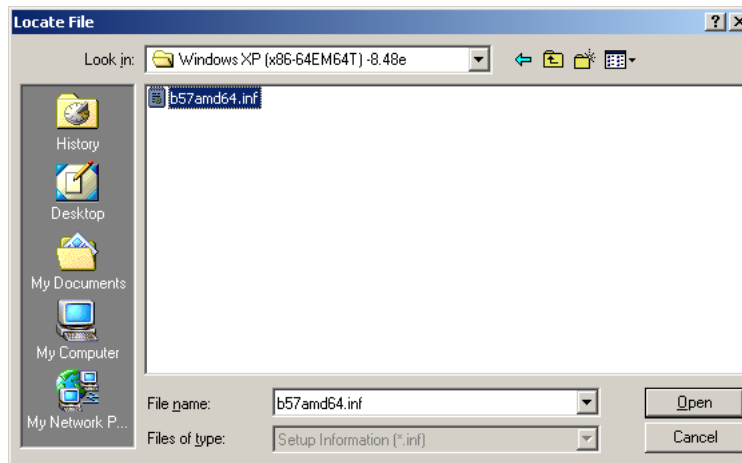

Figure 7-32: Location Browsing Window
Step 10: The **Locate File** window appears (Figure 7-32).